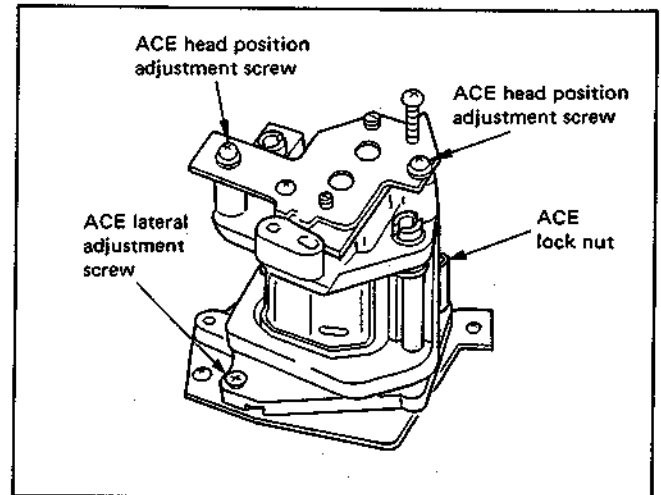

Fig. 2-14 ACE Assembly
- Loosen the ACE lock nut about 360°. (Fig. 2-14)